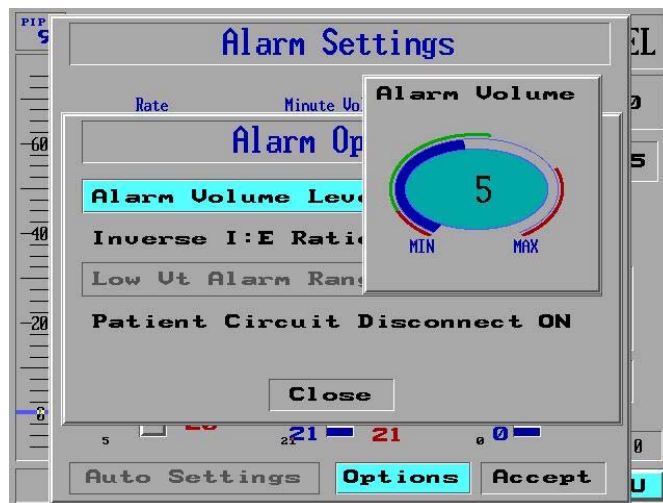

Figure 143: The Alarm Volume Pop-Up Window
3. Press the Control Knob to display the **Alarm Volume** pop-up window (Figure 143).